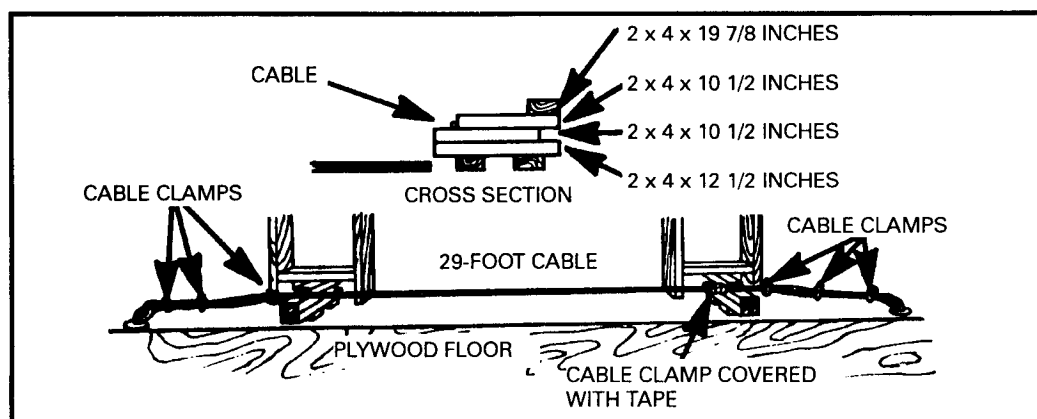

Figure 19-10. CH-54 anchor line cable assembly.
(4) An anchor line cable assembly (Figure 19-10) is installed on the starboard side of the floor by using the two top tie-down fittings at the forward end (numbers 1F and 2F) and the two tie-down fittings at the aft end (numbers 15F and 16F) as attachment points. One 1/4-inch steel cable (MIL-C-5424 or MIL-C-1511) or 3/8-inch steel cable (MIL-W-12567), 29 feet long, is used with six cable clamps, lock washers, and bolts. Two bolts with clamps face outboard and one bolt with clamps faces inboard. Wooden blocks are placed between the anchor line cable and the floor.